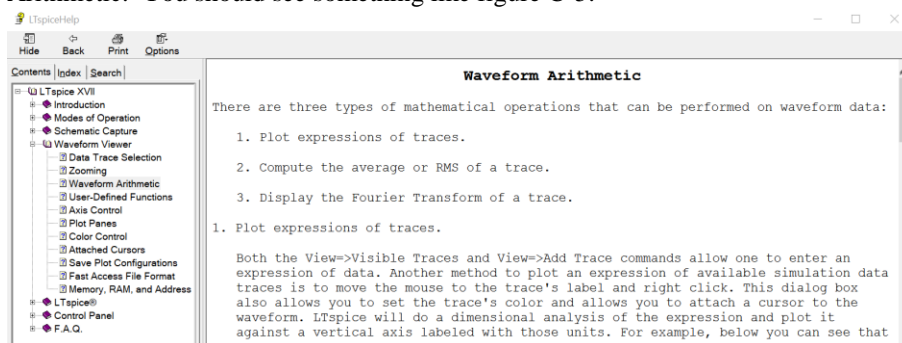

Figure C-5.
- A document will open, expand *LTspice XVII*, expand *Waveform Viewer*, and select *Waveform Arithmetic*. You should see something like figure C-5.